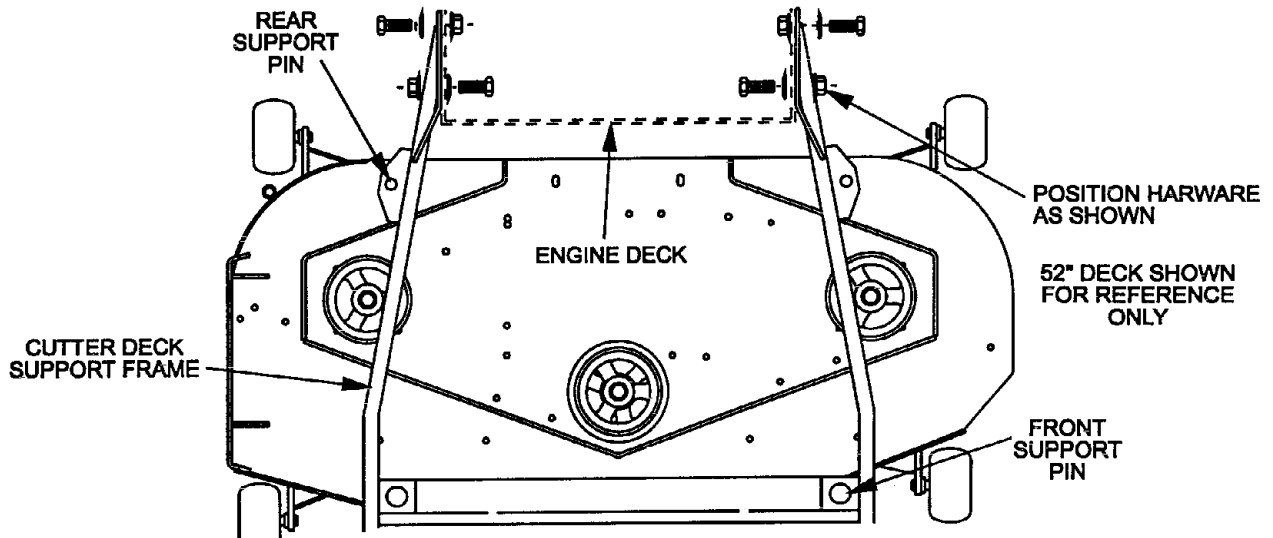

FIG. 2
NOTE: Place spring washer cone against bolt head and install with the whizlock nut to the *inside of engine deck* for the two *rear* holes on both sides. Install whizlock nut to the *outside* for the two *front* bolt holes on each side of the *cutter deck support frame*. (See Figure 2). Tighten until spring washers are flat.
- 3.6.4 Position tractor, with cutter deck support frame in place, over the cutter deck. Align support frame above cutting deck and position it so the support pins on the deck align with the mounting holes in the support frame. Lower support frame onto deck and Reinstall the two large hairpins and washers on the front support pins and the two smaller hairpins and washers onto the rear support pins (See Figure 2).